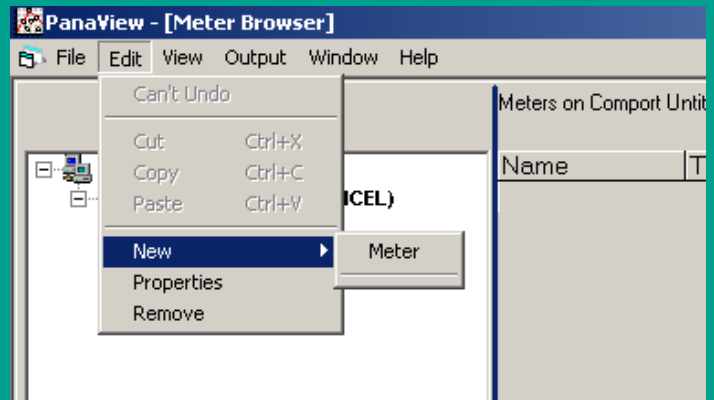

Figure 21: “New” option in the “edit” menu
2. Click on the “new” option in the “edit” menu (see figure 21).